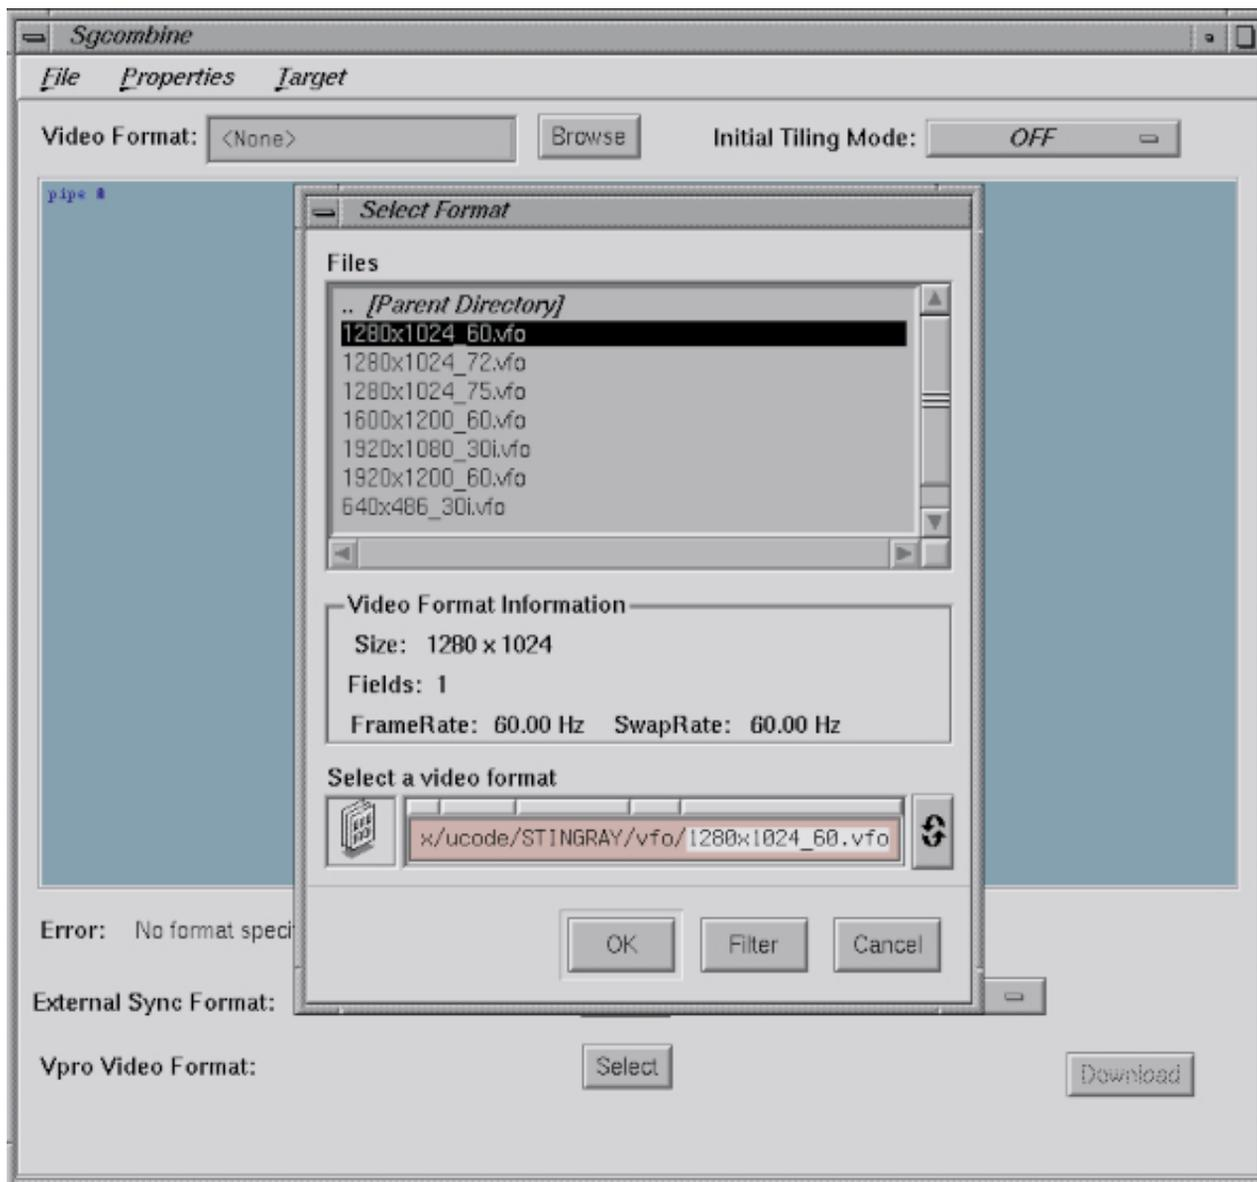

Figure 4-2 Select Format Window Example
1. Select **Browse** from the main window to see the **Select Format** window shown in Figure 4-2. Select a video format for the compositor by following these steps: